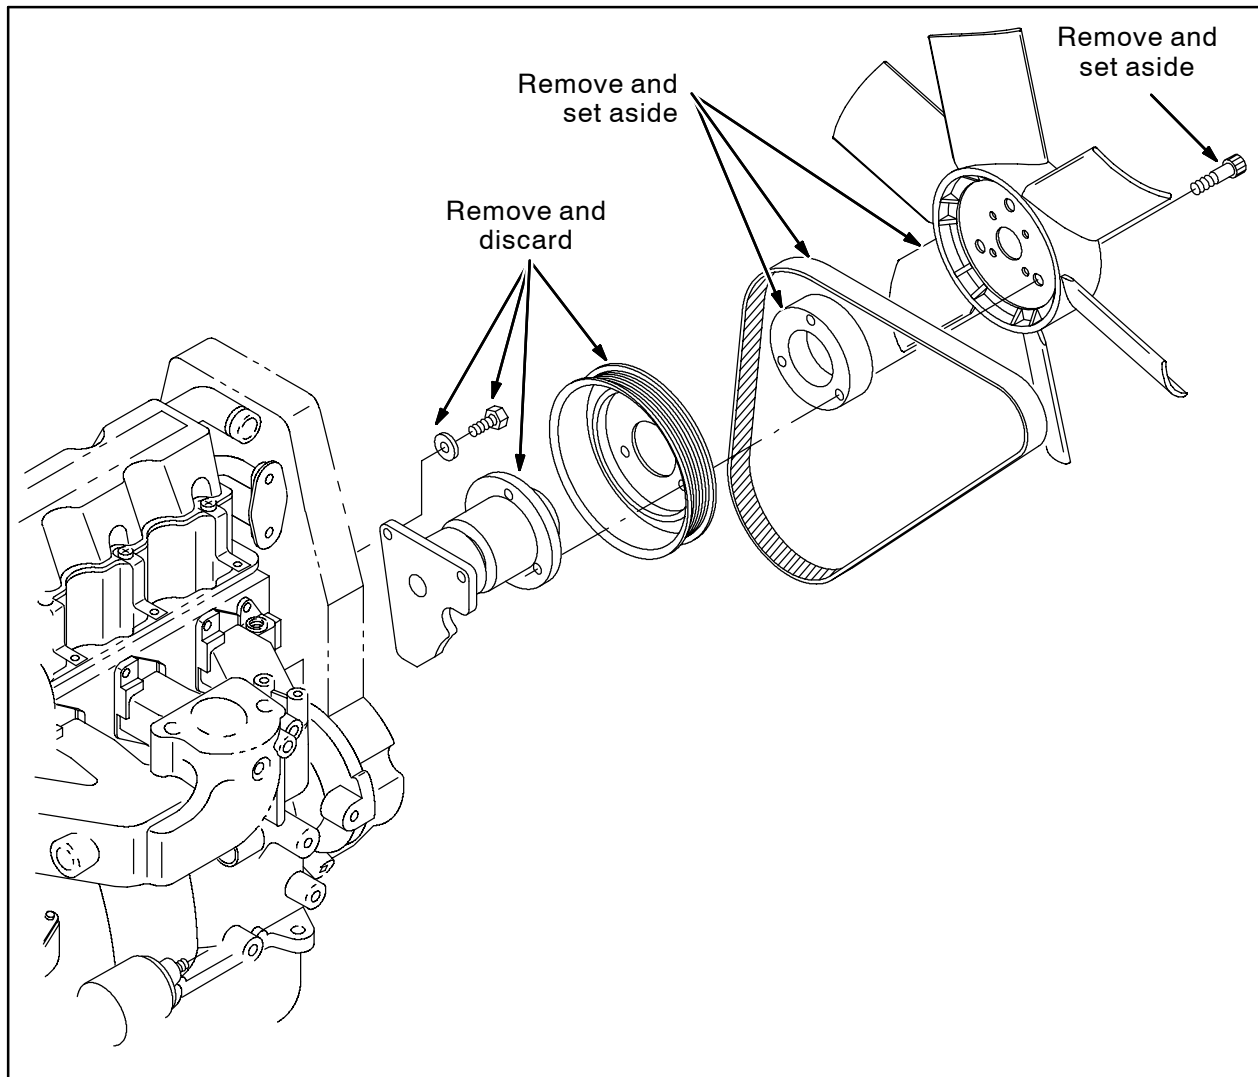

FIG. 1
4. Remove the cooling fan assembly and spacer from the engine. Set the fan assembly, spacer, and all mounting hardware aside. Refer to Fig. 1.
5. Remove the engine belt from the machine. Set the engine belt aside. Refer to Fig. 1.
6. Remove the sheave and fan hub pulley from the machine. Discard the sheave, fan hub pulley, and all mounting hardware. Refer to Fig. 1.